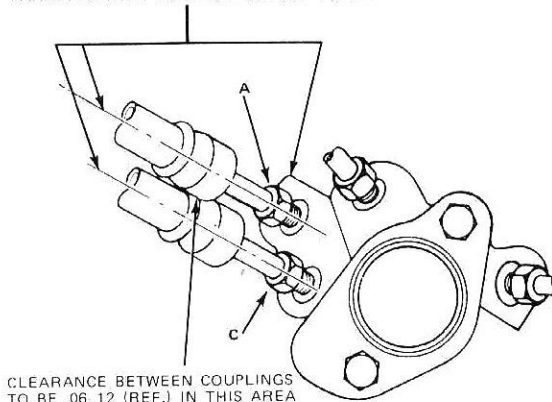

FIG. 5 Power Steering Hose Installation
7. Connect the return and pressure lines from the pump to the control valve, finger tight. Install the worm-screw hose clamp to secure the lines to the outside of the control valve. Torque the clamp to 36-60 in-lb. Torque the return line tube nut (5/8" hex) to 16-25 ft-lb and the pressure line tube nut (1/2" hex) to 15-19 ft-lb. **Do not tighten beyond specification.** Connect the unmarked end of the shorter control valve-to-power cylinder hose to valve port "C" (Fig. 5). Connect the other hose to valve port "A". Hold each tube so that the bend parallels the surface of the valve and torque each nut to 15-19 ft-lb. **Do not tighten beyond specification.**
1. Connect the unmarked end of the shorter control valve-to-power cylinder hose to port valve "C" (Fig. 5). Connect the other hose to port "A". Hold the tube so that the bend is parallel to the surface of the valve. Torque the tube nut (1/2" hex) to 15-19 ft-lb. Connect the opposite end to the lower port in the power cylinder. Hold the tube while tightening to prevent the tube from twisting. Torque the nut to 15-19 ft-lb. **Do not tighten beyond specification.** Connect the other tube to port "A". Make sure the tubes are parallel and torque the nut to 15-19 ft-lb. Connect the opposite end to the upper port of the power cylinder and torque to 15-19 ft-lb. **Do not tighten beyond specification.**